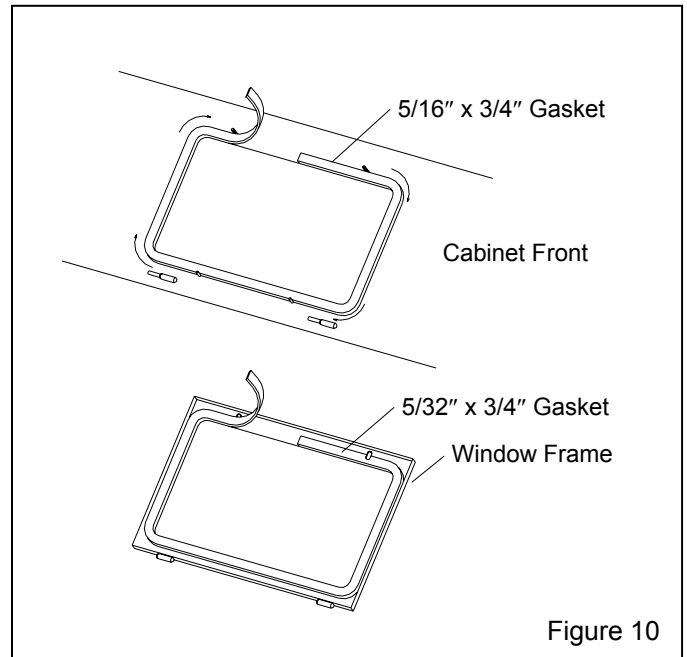

Figure 10
7.4 Window Gasket Replacement, Figure 10
7.4.4 Peel a short section of adhesive backing from the 5/16" thick strip gasket, and adhere the gasket to the center of the top edge of the window opening, as shown in Figure 10. Peel additional backing as needed, and work the strip around the radius of each corner, pressing it tightly to bond. Trim the gasket to fit and compress the ends to seal.